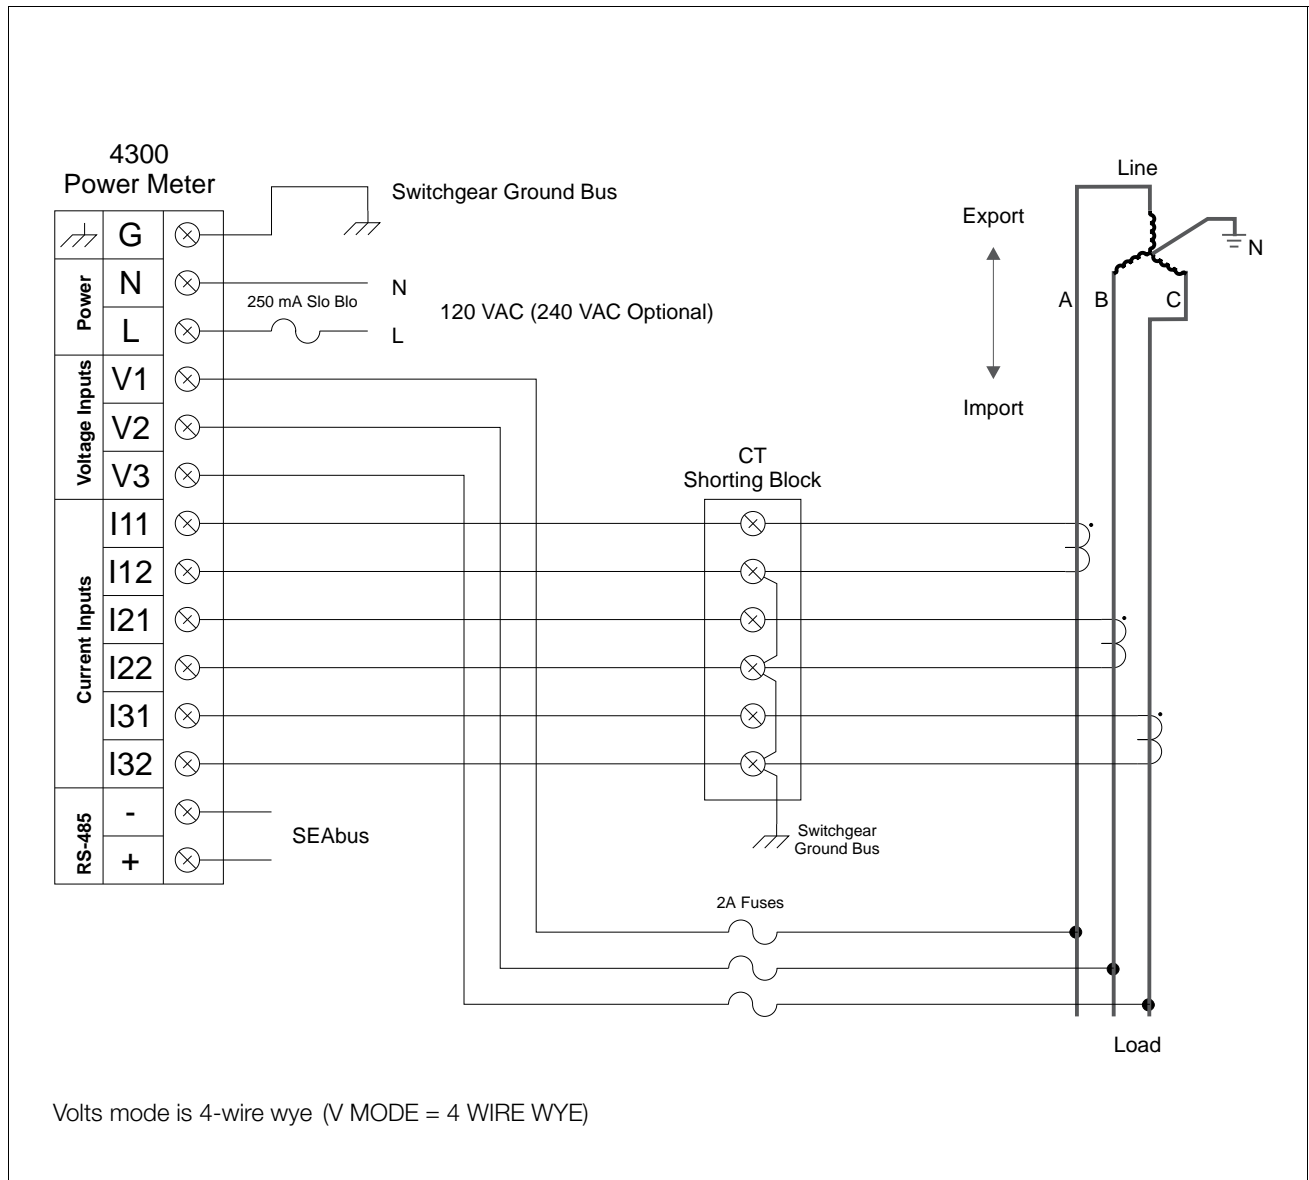

Figure 2.4 Three-Wire Wye, Three-Element Direct Connection for 120/208 VAC to 347/600 VAC Systems
- Three-Wire Wye, Three-Element Direct Connection for Systems 120/208 VAC to 347/600 VAC (**Figure 2.4**)
Figure 2.4 illustrates a three-phase, three-wire wye, 120/208 VAC to 347/600 VAC system with a three-element direct connection. When the star point of a three-wire wye system is grounded, the 4300 power meter can be directly connected without VTs, provided that the voltages are within the input range of the unit. For line-to-neutral (L-N) voltages over 347 VAC, use VTs.